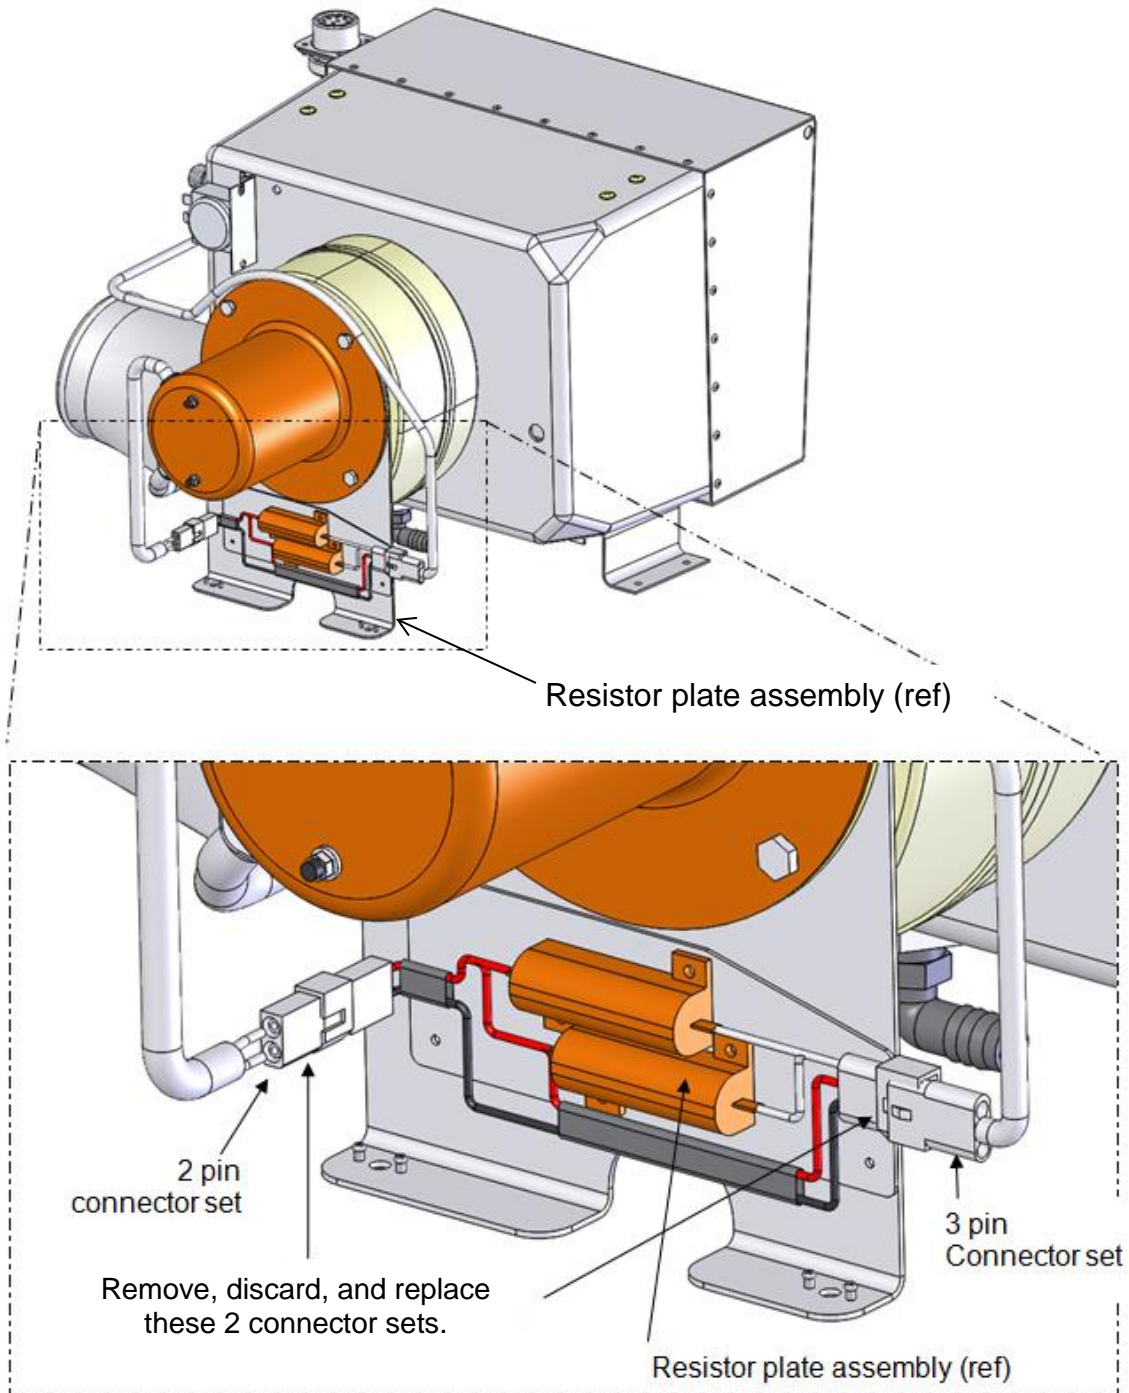
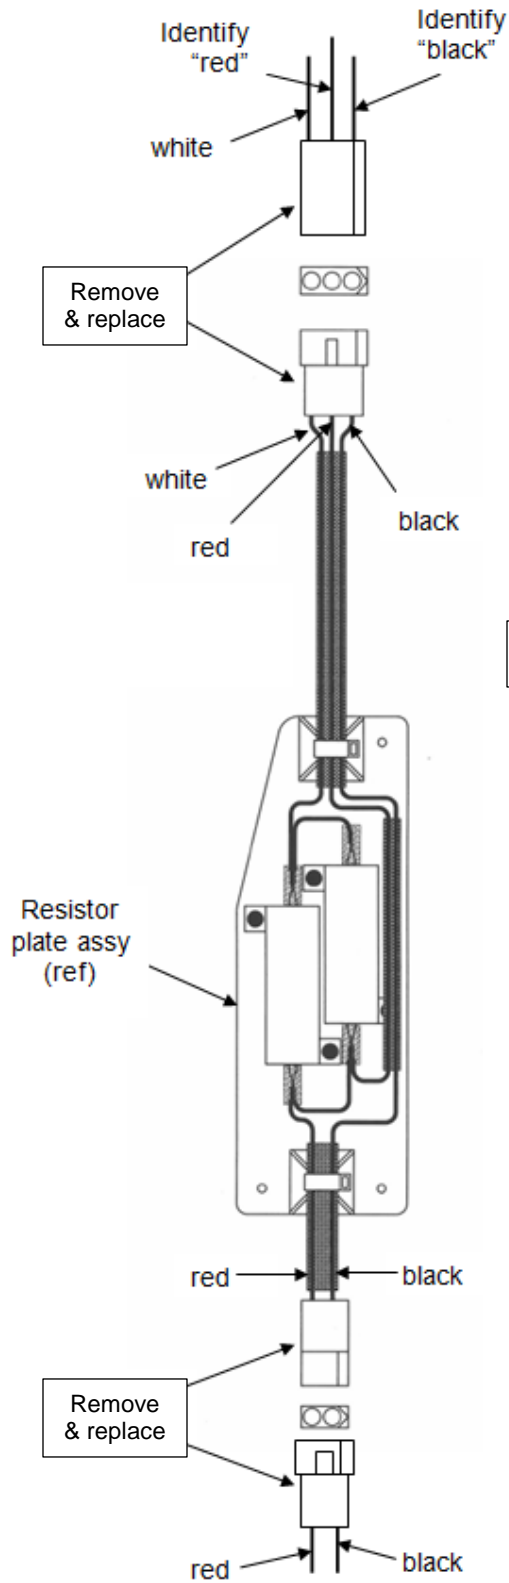

Figure 1 Aft Evaporator Assembly EC130-6204-1,-2
Figure 2 Resistor Plate Assembly
2. Locate the 3 pin connector near the resistors on the evaporator (see Figure 1) and mark the white wires "Red" and "Black" as appropriate per figure 2. It may be necessary to remove a portion of the heat shrink covering on the harness.
3. Cut the wires on the back side of the 4 connectors (2 connector sets) shown in Figure 1. Remove minimal wire length. Remove and discard the connectors w/pins & sockets.